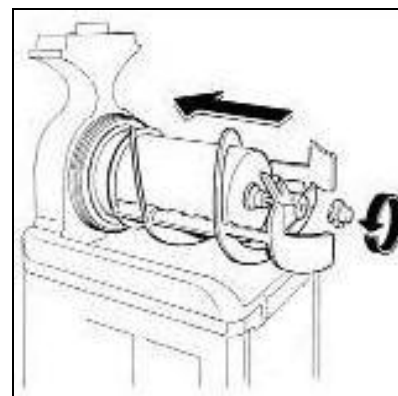

Fig. 21
- Block all these components into place by turning the knob in counter clockwise direction (fig.21).